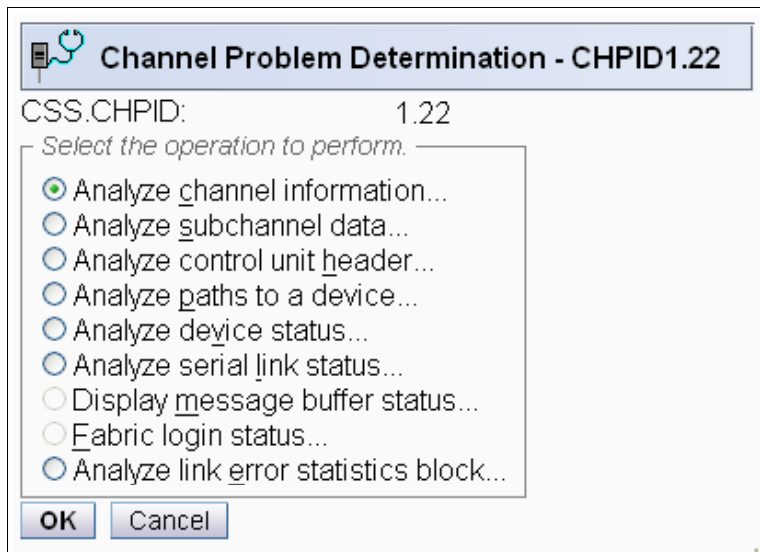
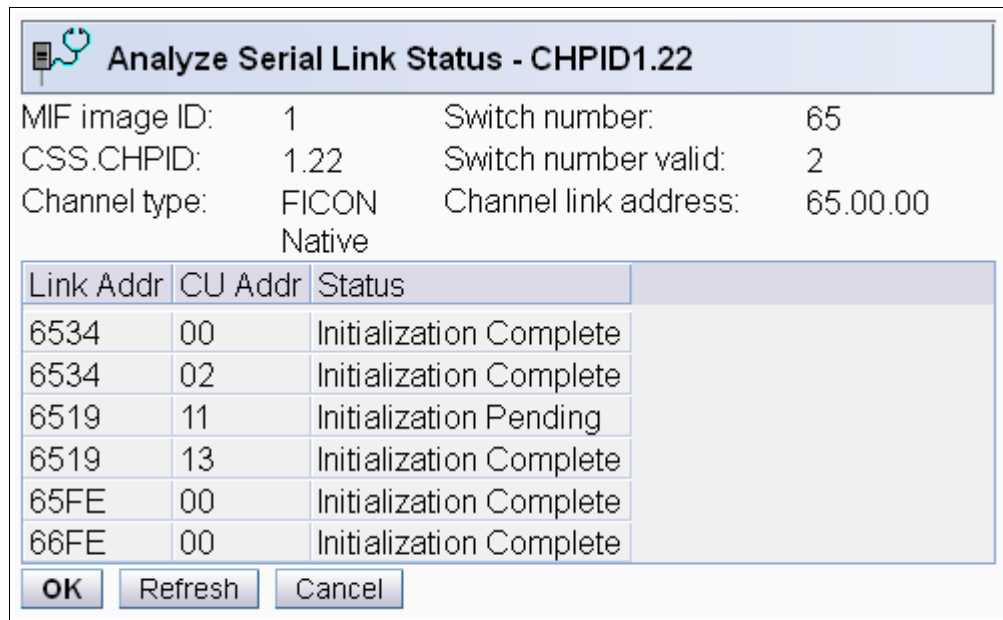

Figure 6-49 HMC Channel Problem Determination panel
Figure 6-51 HMC Analyze Serial Link status
3. Check that the FICON channels are connected to the correct FICON switch and port. On either the PCHID details or CHPID details panel, click **Channel Problem Determination**. This will display the Channel Problem Determination panel, where you can select which information you want to display. See Figure 6-49.
- On the Channel Problem Determination panel, shown in Figure 6-49 on page 193, select **Analyze Serial Link Status**, and click **OK**. The Analyze Serial Link Status window is displayed, as shown in Figure 6-51.
The Analyze Serial Link Status window provides status information about the link to the control unit images defined in the IOCDs. Scroll through the list of CU images and check that status for all CUs is Initialization Complete. In this case, Figure 6-51 shows a link status of Initialization Complete for all defined CU images on link address 6534.